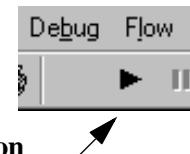

Figure 1-34. The Run button on the Tool Bar
3. Click the **Run** button. It looks like a small arrowhead, and is located on the tool bar below the Debug menu as shown in Figure 1-34.